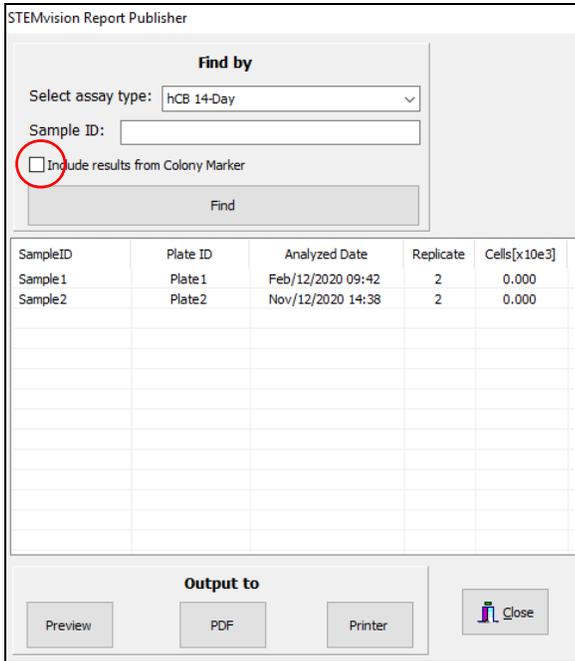

Figure 12. STEMvision™ Report Publisher Dialog Box
2. Click on “Report” in the Menu Bar again and select “Find”. The “STEMvision™ Report Publisher” dialog box will appear (see Figure 12).
2. Once the modified results have been imported, proceed with generating Assay Reports as described in section 6.1.1. To include the manually modified results, click the box next to “Include results from Colony Marker” in the STEMvision™ Report Publisher dialog box (see Figure 12).